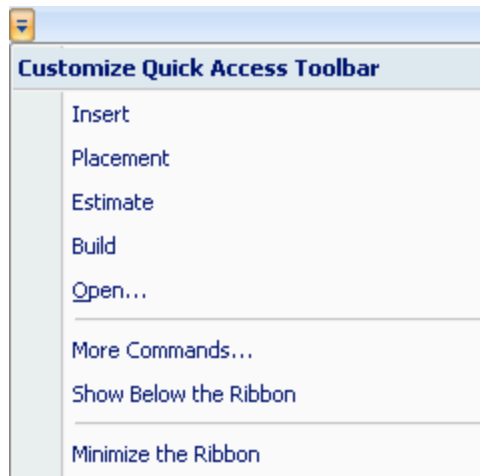

Figure 5-80 *Customize Quick Access Toolbar* menu
- ☐ From the *Customize Quick Access Toolbar* menu (see Figure 5-80 on the previous page), select *More Commands*.